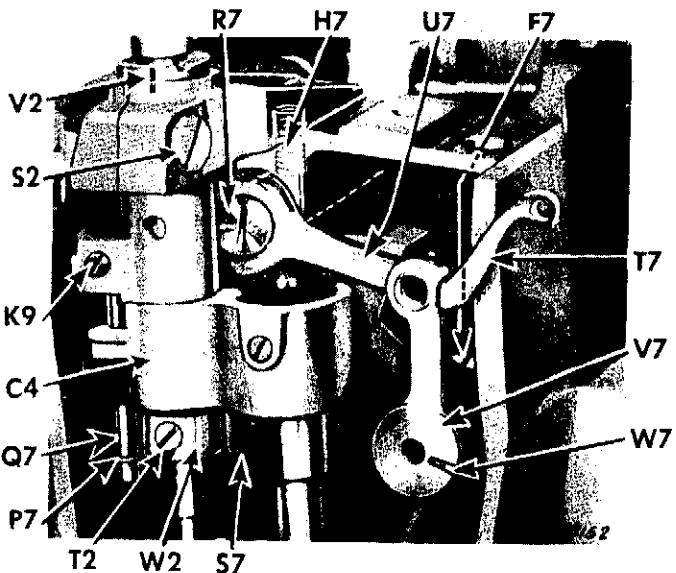

Fig. 320. Needle Thread Take-up
5. Unhook spring **P7** from hinge pin **Q7**, Fig. 320.
6. Loosen screw **K9**, Fig. 320 and remove pin **Q7**.
7. Loosen set screw **T2** and remove collar **W2**, Fig. 320.
Spring **P7** must be hooked around hinge pin **Q7**, as shown in Fig. 320.
3. Loosen set screw **H7**, Fig. 320 over hinge stud **R7**.
4. Loosen small set screw **F7** in needle bar crank **S7**, through hole in top of casting, as shown in Fig. 320.
5. Withdraw needle thread take-up **T7**, with link **U7**, hinge stud **R7** and stud **V7**, Fig. 320 from machine head.
2. Locate mark **W7** on stud **V7**, as shown in Fig. 320, in relation to its set screw **F7**. Press firmly upon stud **V7** and tighten set screw **F7**.
3. Turn hand wheel while setting hinge stud **R7**, to make sure there is no end play nor binding; then tighten set screw **H7**, Fig. 320.